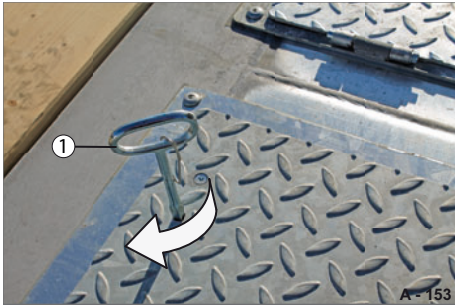

Fig. 71 Unlocking stowage box
- ▶ Stick the square-bolt socket wrench (Fig. 71/1) into the perforation and turn it.